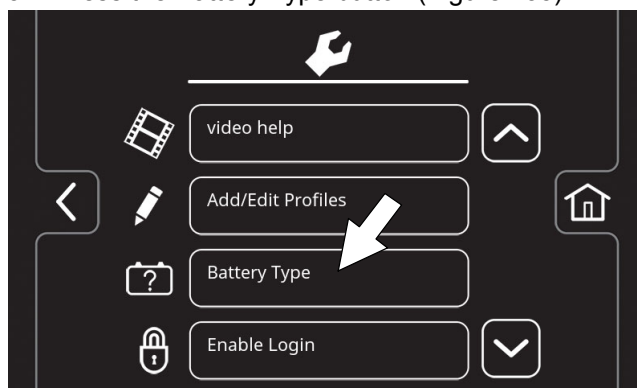

FIG. 135
3. Press the Battery Type button (Figure 135).